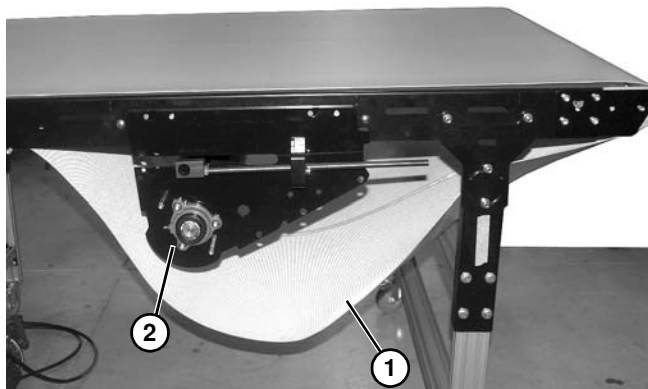

Figure 83
14. Remove belt (**Figure 83, item 1**) from center drive module (**Figure 83, item 2**) and conveyor.